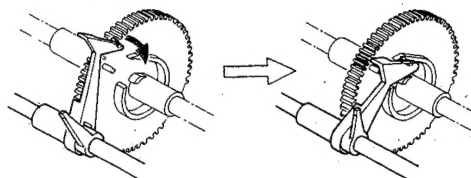

Fig. 18
- 5) Insert the mechanism frame from above as shown in the illustration, and temporarily secure it. (See figure 18)